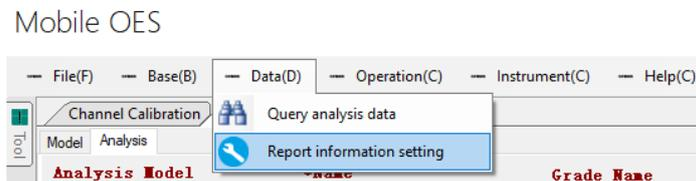

Figure 5-5 Report Information Settings
Step 1 Find " Report information setting " under "Data" on the menu bar , as shown in Figure 5-5 :